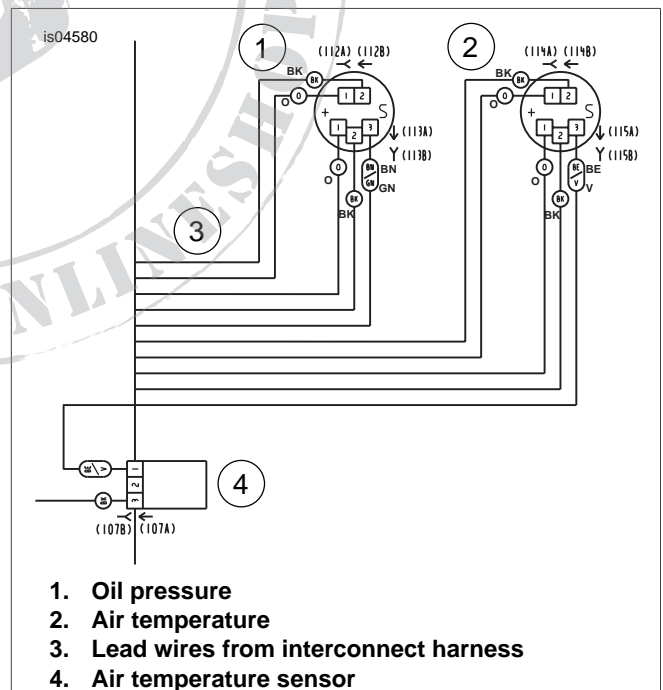

Figure 8. Wiring Schematic
7. See Figure 8. Refer to the wire colors on the schematic to locate interconnect wire harness connectors 112, 113, 114, 115, and 107. Mate interconnect wire harness connectors to the gauges and sensor as shown in the schematic.